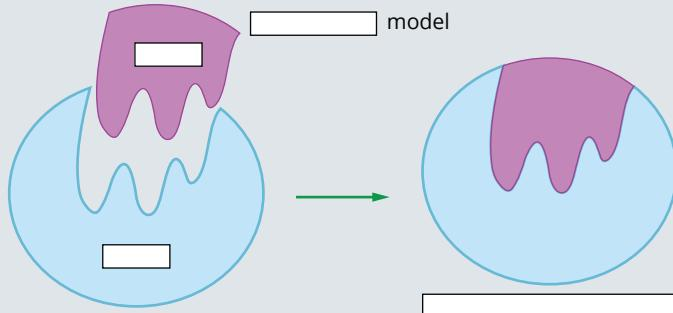

FIGURE 16.6.1 Model of enzyme action.
- On the diagram shown in Figure 16.6.1: